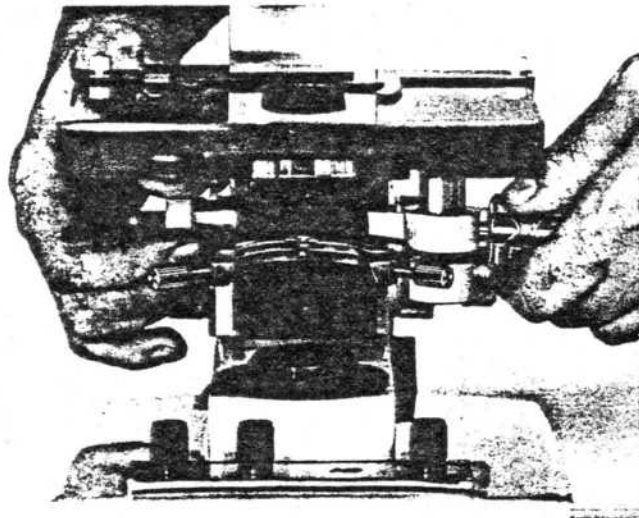

Figure 14 Sub-Stage Tension Screw
- 5.6.1 To disassemble the adjustment pinion group (8 to 12) first place large blade screwdriver in screw (17) to prevent it from turning. Grasp knob (8) on opposite end of pinion (17) and unscrew until knob comes off. See Figure 14.